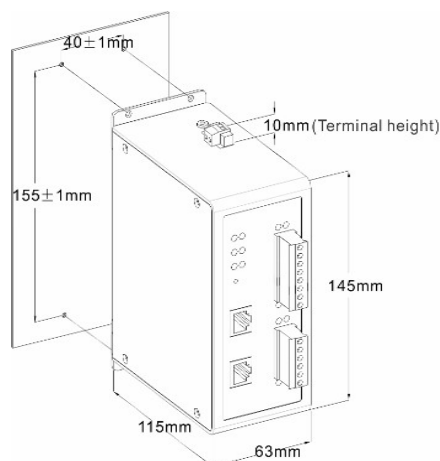

Figure 2-4 Surface Cutout Mounting
- Pre-drill the mounting holes based on the mounting diagram as shown in Figure 2-4